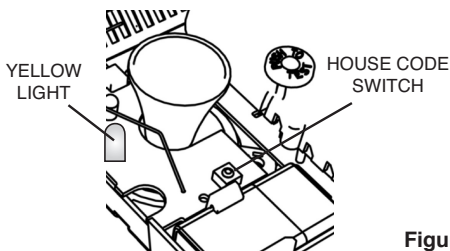

Figure 9
1. Open the cover by pulling the tab. Press the house code switch and hold until the amber light comes on and then release. The amber light will then flash rapidly for about 1 second to indicate the unit is now in the house code mode (see figure 9).